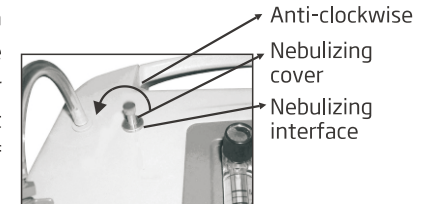

Figure 4
- ▶ Upward pull out the nebulizing cover on the nebulizing interface. (Figure 4)